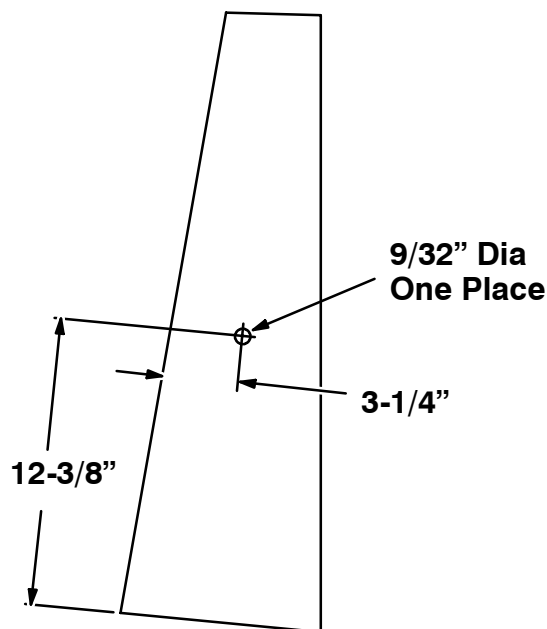

FIG. 1 – Operator Compartment Back Panel Bumper Hole Location
(Refer to Figures 1 and 2)
6. Drill one 9/32 inch diameter hole in operator's compartment back panel. Refer to FIG. 1 for hole location.
(Refer to Figures 1, 3, 4, 5 and 6)